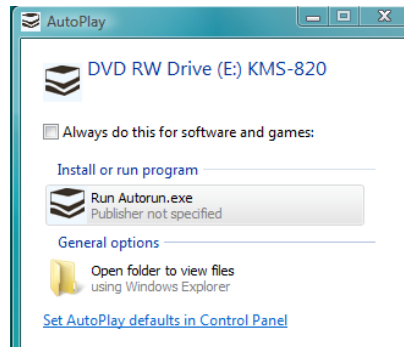

Figure 22 - AutoPlay window
2. The AutoPlay window, Figure 22, may appear. Click on “Run Autorun.exe”.